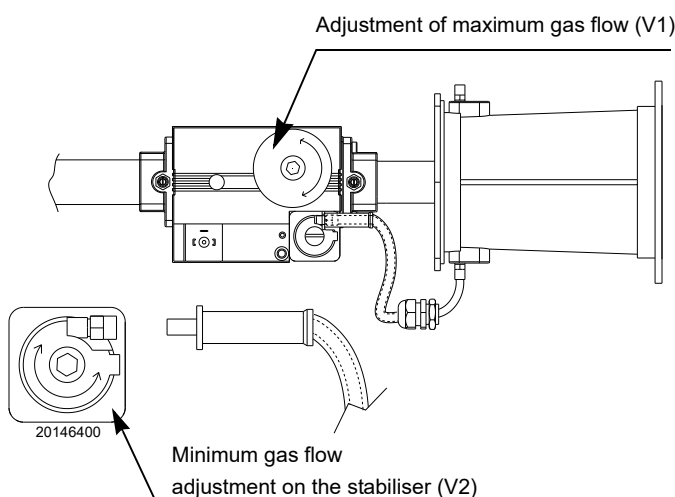

Fig. 25
- to increase the gas delivery and the CO₂: turn the V1 screw towards the "+" sign (Fig. 25);
- to reduce the gas delivery and the CO₂: turn the V1 screw towards the "-" sign (Fig. 25);
- to increase the gas delivery and the CO₂: turn the V2 screw towards the "+" sign (Fig. 25);
- to reduce the gas delivery and the CO₂: turn the V2 screw towards the "-" sign (Fig. 25);